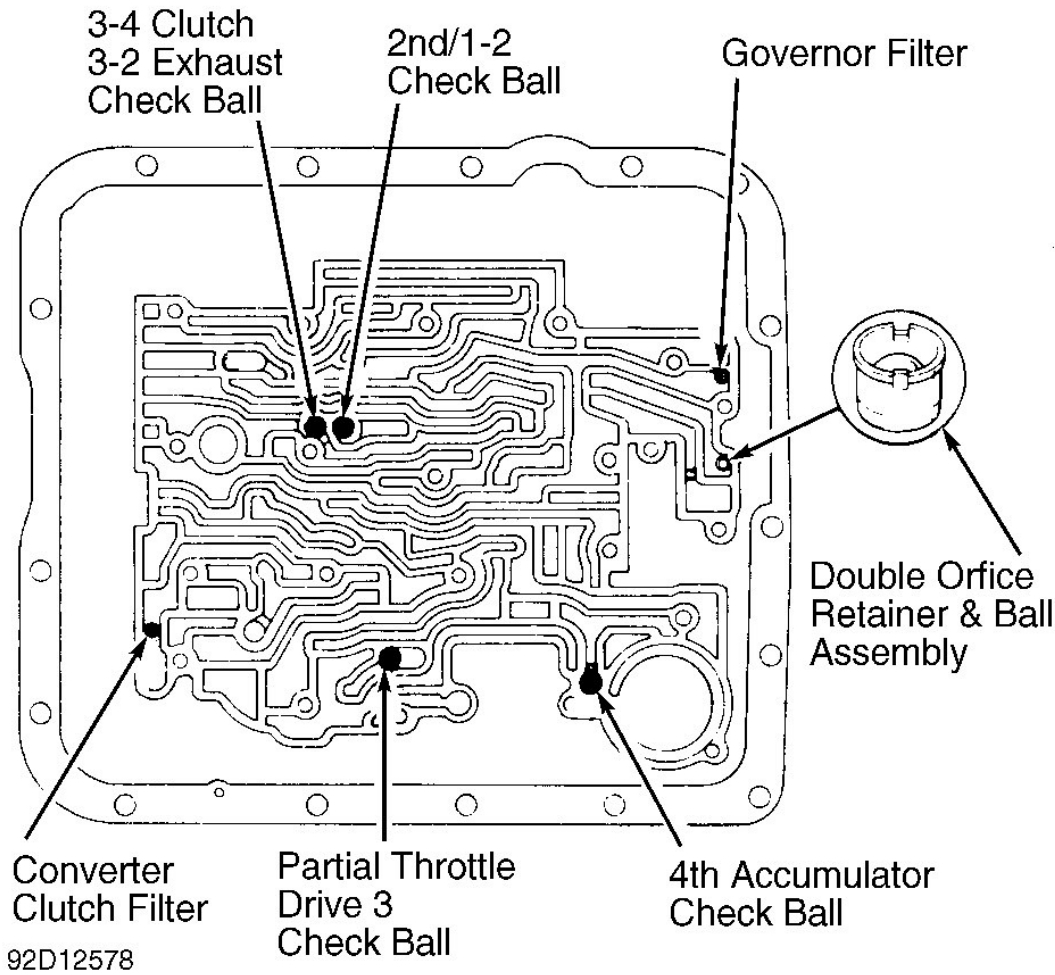

Fig. 19: Locating Check Balls & Filters in Case (4L60)
2. Remove 1-2 accumulator piston, seal and spring. Remove spacer plate, and note check ball and filter locations. Remove spring, 3-4 accumulator piston and pin. Note spacer plate and gasket locations. See **Fig. 10** and **Fig. 19** for check ball and filter locations.